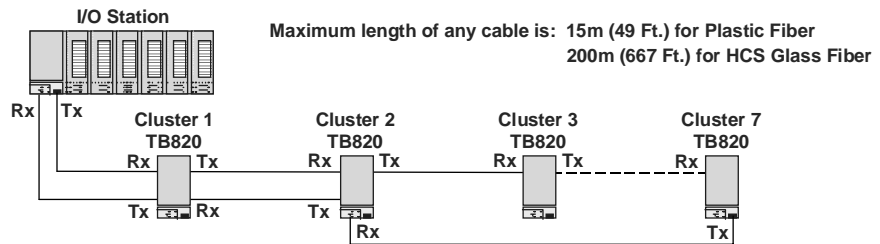

Figure 2-7. Optical Modulebus and I/O clusters, mixed communication
- simplex/duplex mixed configuration. See Figure 2-7.